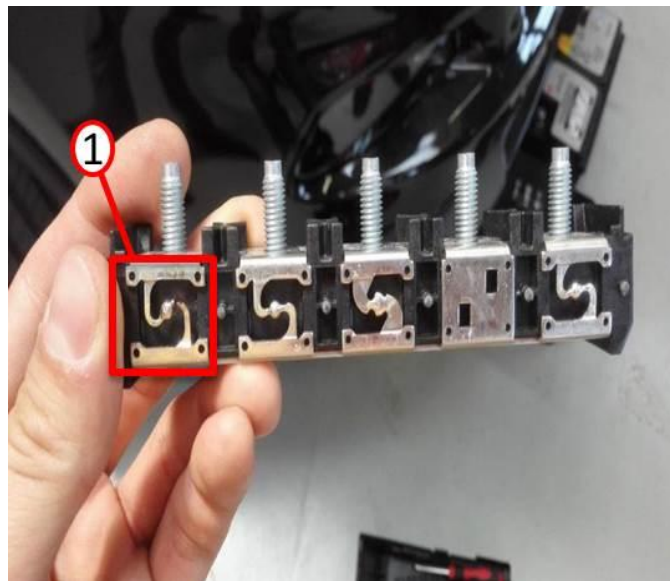

Fig. 14 Fuse
- a. YES>> Replace the bad fuse(s) (Fig. 14) after the wiring harness has been replaced. Proceed to Step #18.